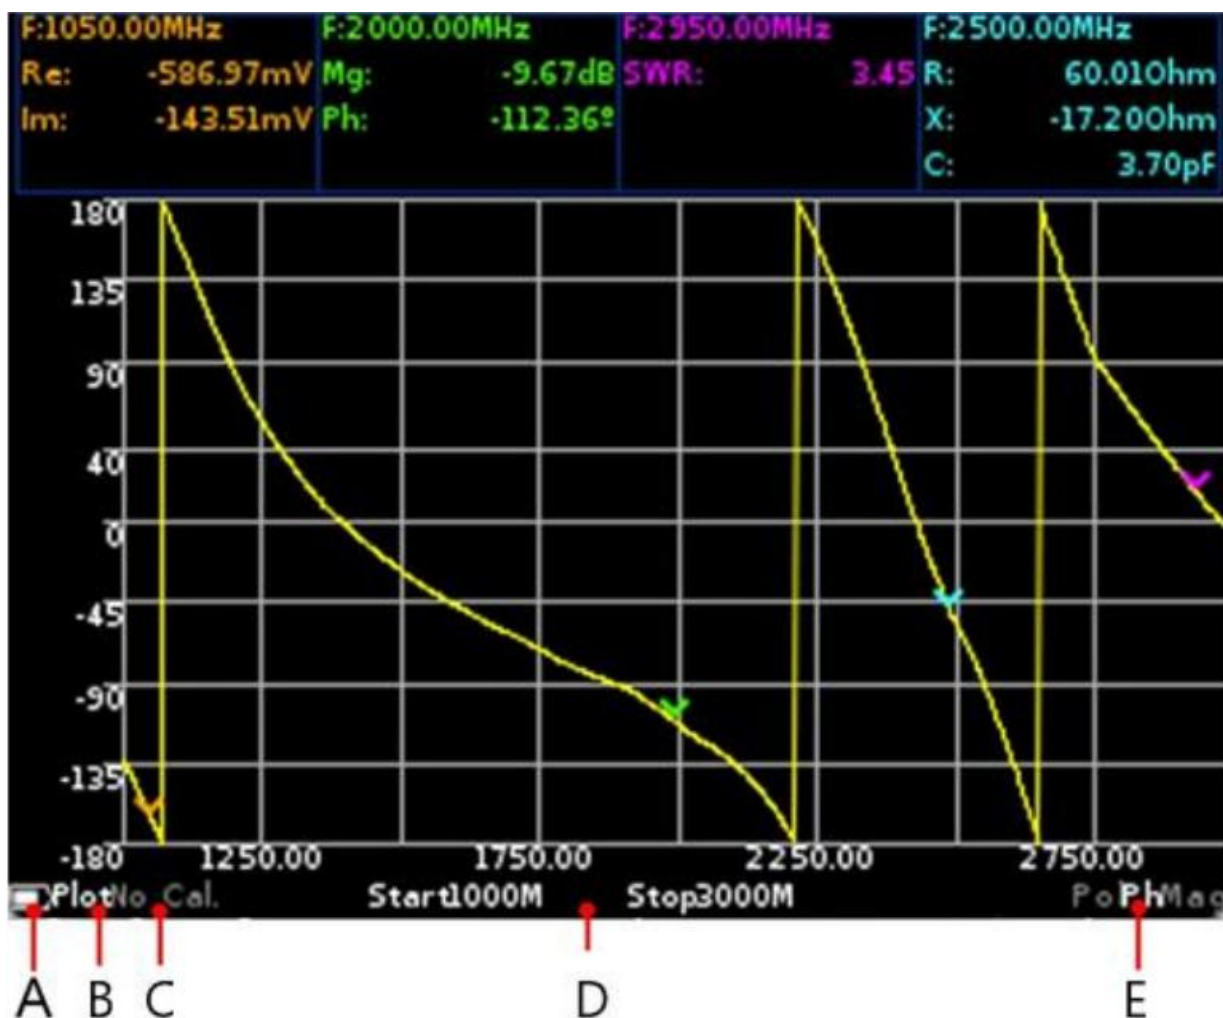

Figure 7.1 – Screen of the device
In Figure 7.1, in the lower left corner of the screen is placed the indicator (A) of the status of the internal battery, which, depending on the state of the battery, can be displayed as:
To the right, from the battery status indicator, the mode (B) is displayed, Figure 7.1, in which the navigation buttons are located:
Designation of the type of calibration (C) figure 7.1:
In the center of the bottom line, the frequency plan is displayed (D) Figure 7.1:
In the lower right corner of the screen, the type of the plot is displayed on the device screen (E) (Figure 7.1):